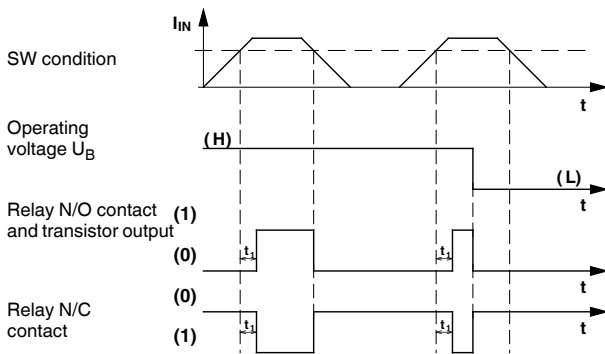
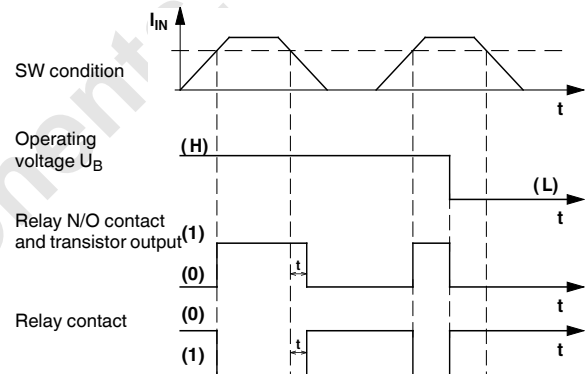

Figure 5 Function diagram: Operating current-controlled when above threshold value
Figure 8 Function diagram: Closed circuit current-controlled when below threshold value
The diagrams below (Figure 5 to Figure 8 on page 15) illustrate the four possible switching behavior options for the relay and transistor output. The various options for the operating behavior in threshold value mode are divided according to:
- Set the TIME potentiometer to "0 s" and turn the threshold value potentiometer according to the following instructions (see Figure 5 to Figure 8 on page 15):
- For Figure 5: Turn the threshold value potentiometer until the yellow "SW" LED lights up.
- For Figure 8: Turn the threshold value potentiometer until the yellow "SW" LED lights up.